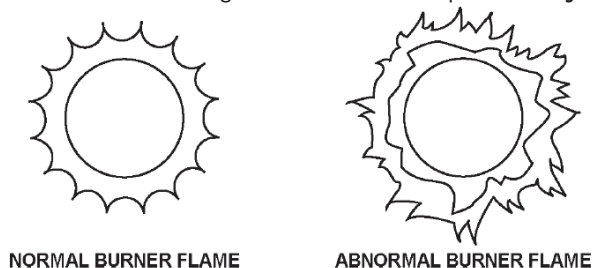

Figure 60. Normal and Abnormal Burner Flames
- Cause no excessive lifting of flame from burner ports. See *Figure 60*.